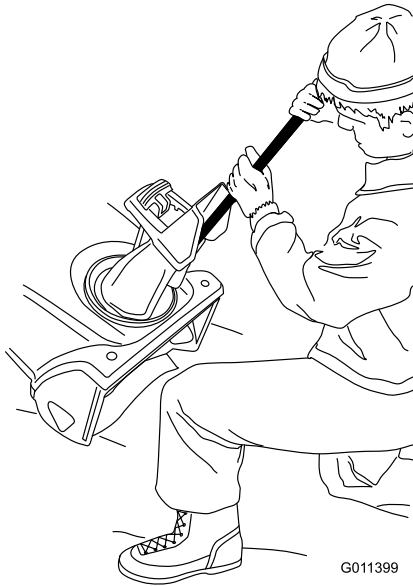

Figure 22
- Always use a clean-out tool, not your hands (Figure 22).